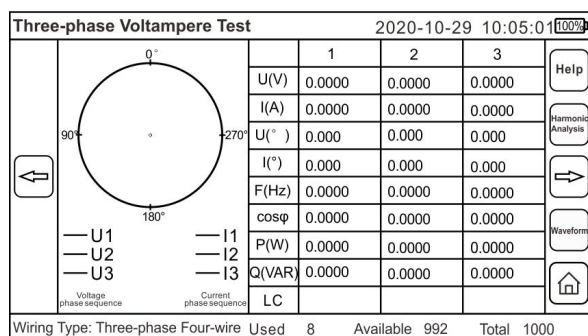
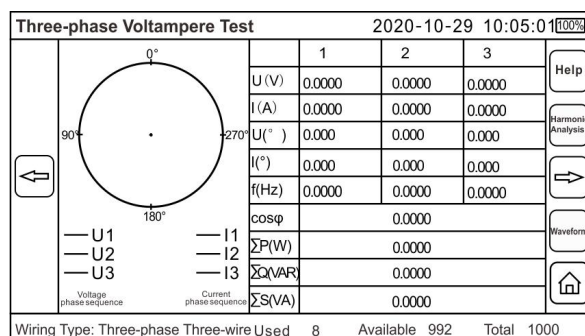
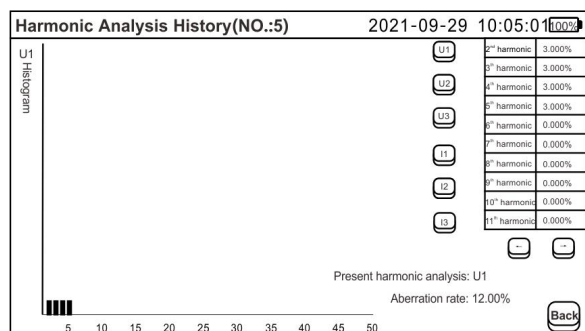
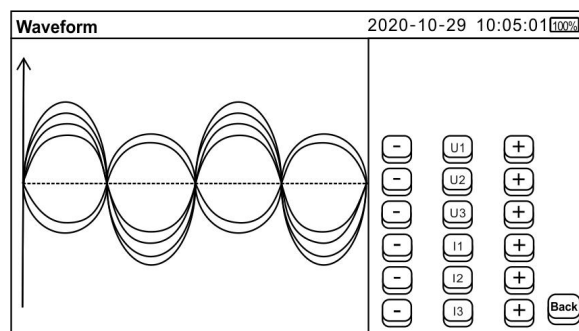

Figure9 3-phase 4-wire test interface
Figure10 3-phase 3-wire test interface
Figure11 Harmonic analysis interface
Figure12 Waveform display interface
6.2.1. After entering to the test interface shown in Figure 9 and Figure 10, the meter will automatically measure the data and display the test data every 0.3 seconds. If need to measure the single phase, only need to connect the wiring of the measured phase, and do not connect the other phases, otherwise the accuracy will be affected. If want to save the data, just click the save key, and the buzzer will sound once when saving the data. Click the Harmonic Analysis key to enter the harmonic analysis interface (as shown in Figure 11 below), and click U1 key to display the 2nd ~ 21st harmonic content and histogram of the voltage U1, corresponding to the present harmonic analysis below "U1", the vertical axis of the histogram on the left will also display "U1 Histogram". Similarly, click U2, U3, I1, I2 or I3 will display the corresponding data, and only one parameter data can be viewed at the same time (U1, U2, U3, I1, I2 or I3) . click the BACK key return to voltage drop test interface. Click the Waveform key to enter the waveform display interface (as shown in Figure 12 below), and the two cycles waveforms of the three channel voltages and three channel currents can be displayed on the same screen. Click the U1 button to display the yellow waveform of U1, click the U2 button to display the green waveform of U2, click the U3 button to display the red waveform of U3, click the I1 button to display the orange waveform of I1, click the I2 button to display the dark green waveform of I2, click The I3 button displays the purple waveform of I3, and the waveform will disappear when the button is clicked again, and the vertical coordinate can be zoom-in by clicking the corresponding zoom-in button to make the waveform amplitude larger, otherwise, the zoom-out button can make the waveform amplitude smaller. Exit the page (click the HOME key or the left arrow under the page) to stop the test.